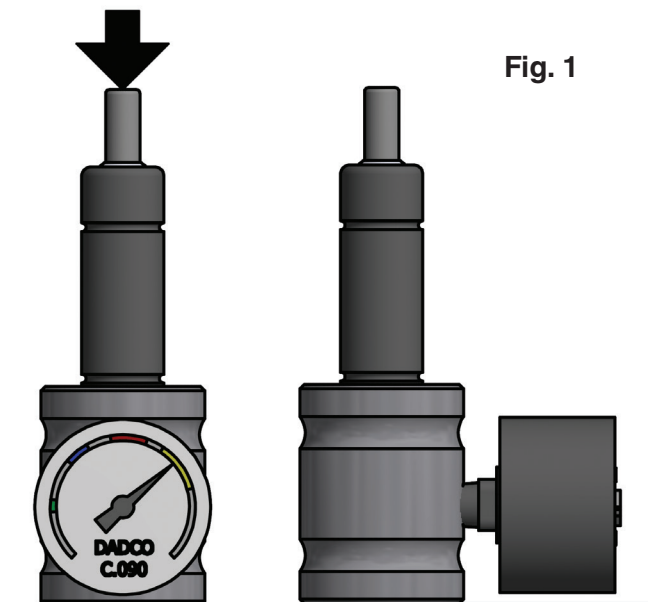

Fig. 1
2. Place the Micro Gas Spring or **Ultra Force®** Gas Spring on top of the appropriate load cell (Fig. 1).
1. Remove the Flush Plug (G-109) and set aside for reassembly (Fig. 1).